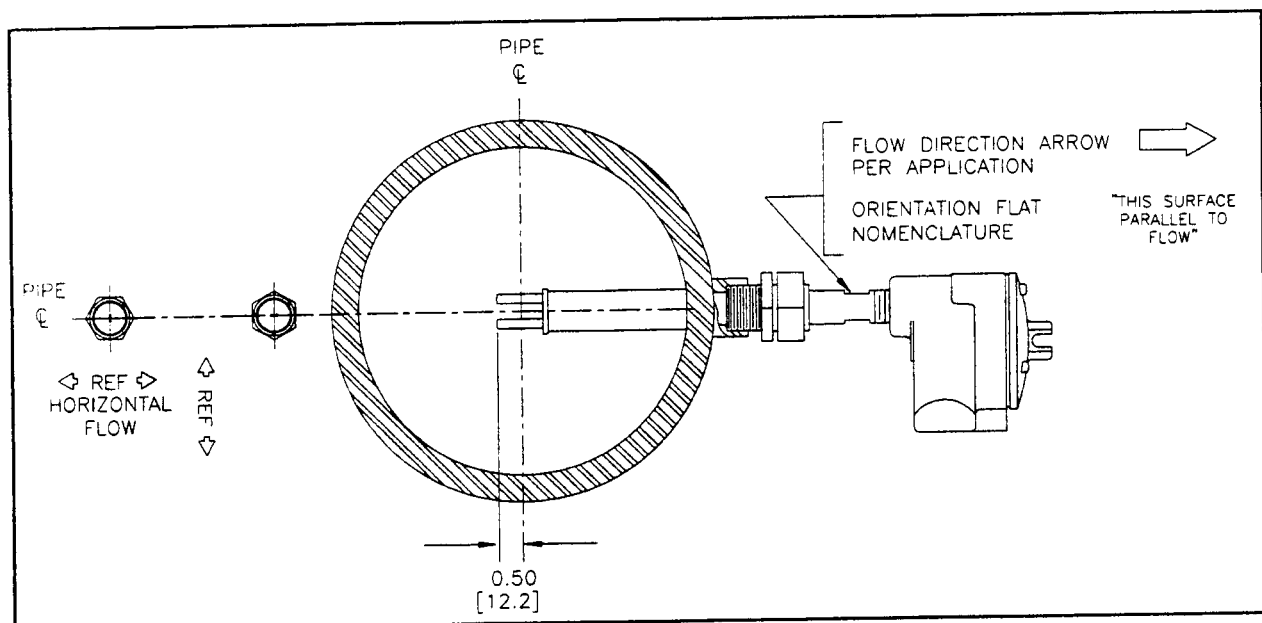

Figure 2-1. Model ST98 Insertion Flow Element (Remote) Showing Orientation
The insertion ST98 flow element comes with flat areas machined on the flow element near the enclosure end of the flow element. Etched on the flow element is a flow arrow indicating the direction of flow. See Figure 2-1.
3. Position the flow element in the process pipe so that the last mark is above the ferrule. The flow element is now placed at 0.50 inch (12.7 mm) past the center of the process pipe as shown in Figure 2-1.
The pipe thread configuration is similar to what is shown in Figure 2-1. Apply sealant compatible with the process media to male threads. Carefully insert into process mount. Threads are right-handed. Tighten with an open-end wrench on the hexagonal surface provided. Rotate until snug and continue to turn until flat is horizontal to process flow.